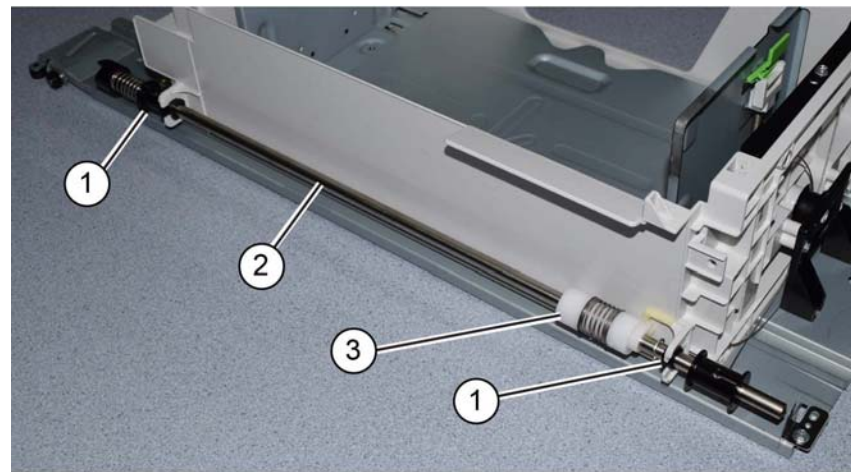

Figure 4 Lift shaft removal
The lift shaft brake, item 3 in Figure 4, is secured on the lift shaft by a pin. Do not lose the pin when the lift shaft is removed.
7. Remove the lift shaft, Figure 4:
- a. Release the front and rear bearings (1).
- b. Remove the lift shaft (2).